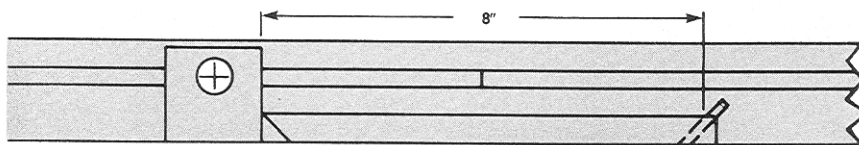

Fig. 2 For the second cut, obtain the final length of the piece by measuring from the inside of the fence kerf to the stop block.
**Step 4:** Measure 8" from the mitered end and mark the stock on the uncut end. Set this piece in the jig, align the mark with the kerf and re-adjust the stop block (See Fig. 2). Cut all remaining ends of the boards.